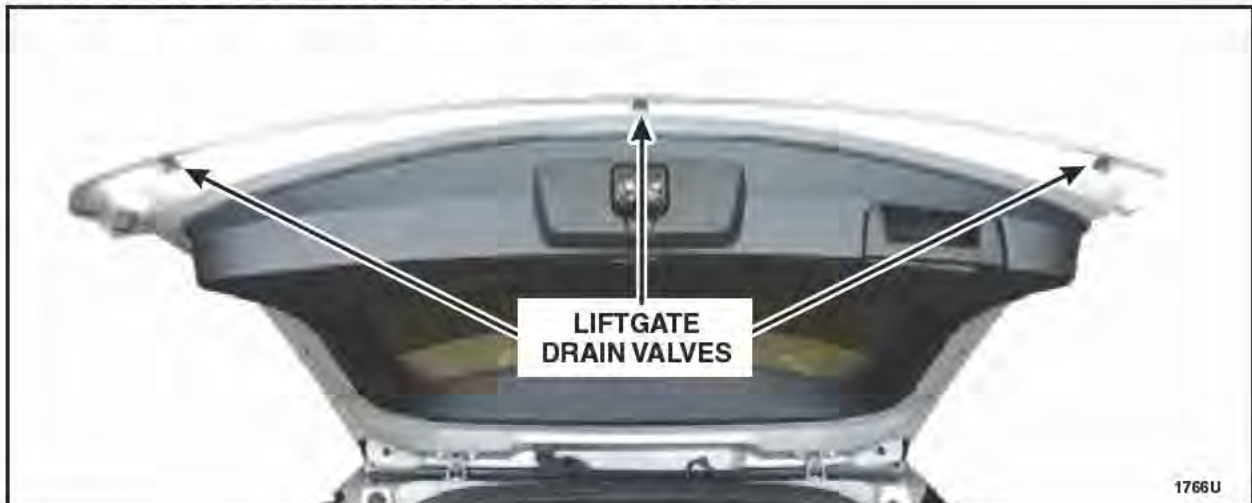

FIGURE 1
1. Remove and discard all liftgate drain valves. Clean the liftgate where the drains are fitted using isopropyl alcohol. 2011-2015 model year vehicles are equipped with two valves, 2016-2017 model year vehicles are equipped with three valves. See Figure 1.